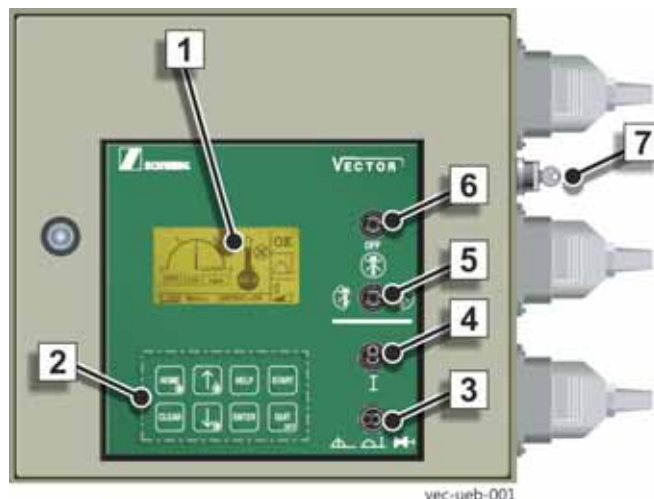

Fig. 351
- Flip the selector switch (3) (**Fig. 351**) to the "Pumping piston change" position.
Display (1) (**Fig. 351**) contains a relevant note (see "**VECTOR control system**" on page 117).
- Enable the control with the button (4) (**Fig. 351**).